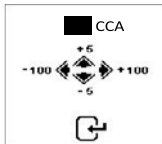

Fig.30
- To adjust the CCA value, press ◀ or ▶ key will decrease or increase the value by 100 while ▲ or ▼ key will increase or decrease the value by 5 as shown in Fig.30 below.